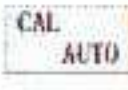

Figure 4-11 Measurement interface
1. Press  to select the 2-wire resistance measurement function by default. The measurement interface is shown in Figure 4-11.